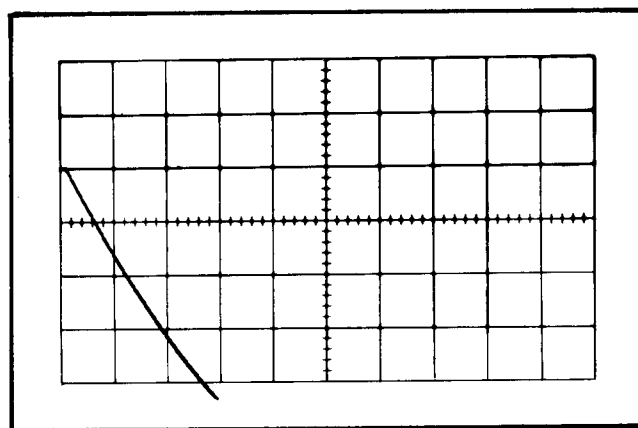

Fig. 6-55. Typical CRT display when checking DELAY-TIME MULTIPLIER dial incremental linearity.
c. Rotate the dial as necessary to position the start of the pulse to the beginning of the sweep (see Fig. 6-55).